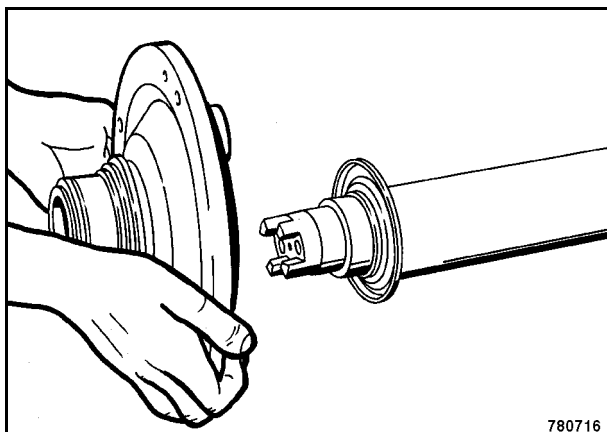

Fig. 13
21. Take the bearing housing (Fig. 13) off the exciter shaft.